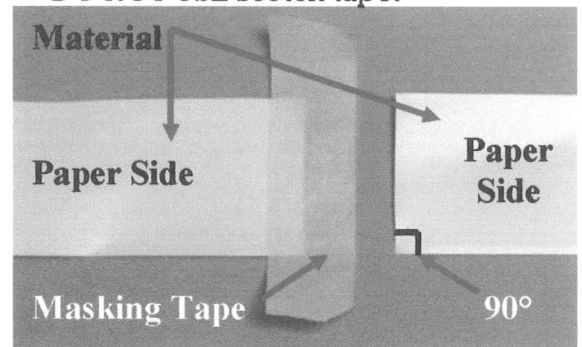

Fig. 2 – Splicing Material
3. To butt splice material, cut both ends of Material square (see Fig. 2).
4. Lay a piece of 1" masking tape or equivalent, halfway onto one of the ends (paper side). (see Fig. 2)